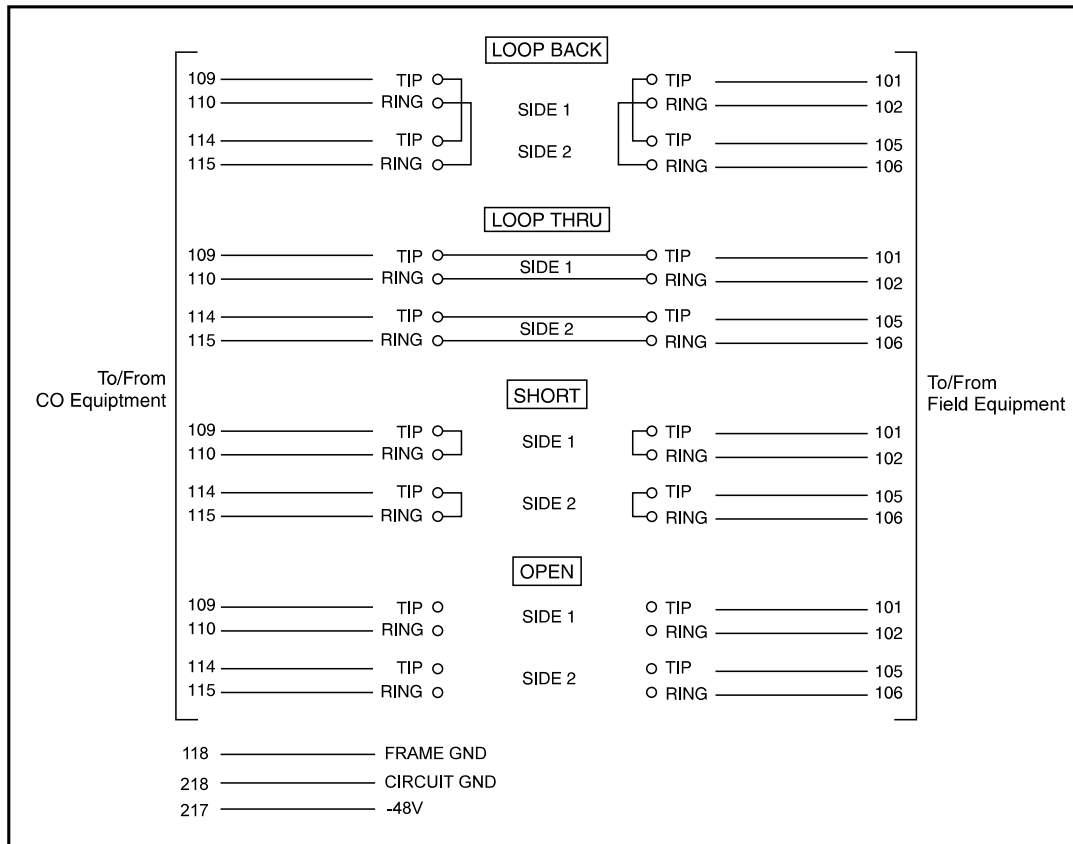

Figure 2. HTC-388 Test Card Test Connections.
4.2 The HTC-388 Test Card enables you to perform LOOP-BACK, LOOP-THRU, SHORT, and OPEN tests on CO and Field circuits by using the four-position test selection switch (S1) to select the appropriate test. All tests are run on both side 1 and side 2. Figure 1 illustrates the locations of the test points, 210 jacks, and selector switch. Figure 2 illustrates the connection of Tip and Ring pairs of CO and Field circuits for each setting of the test switch. Table 2 lists the circuit and pin connections during the tests.
- 2 Set switch S1 on the card to the type of test you want to perform (LOOP BACK, LOOP THRU, SHORT, or OPEN). Figure 2 and Table 1 illustrate and list the connection of Tip and Ring pairs of CO and Field circuits for each setting of the test switch (S1). Pin numbers correspond to edge connector pins for each circuit.